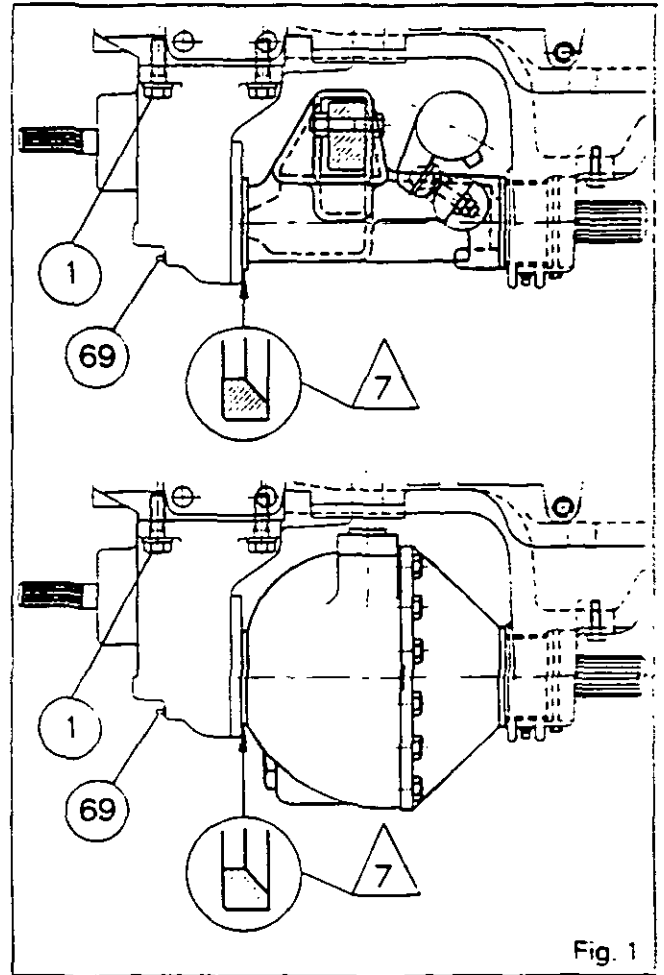
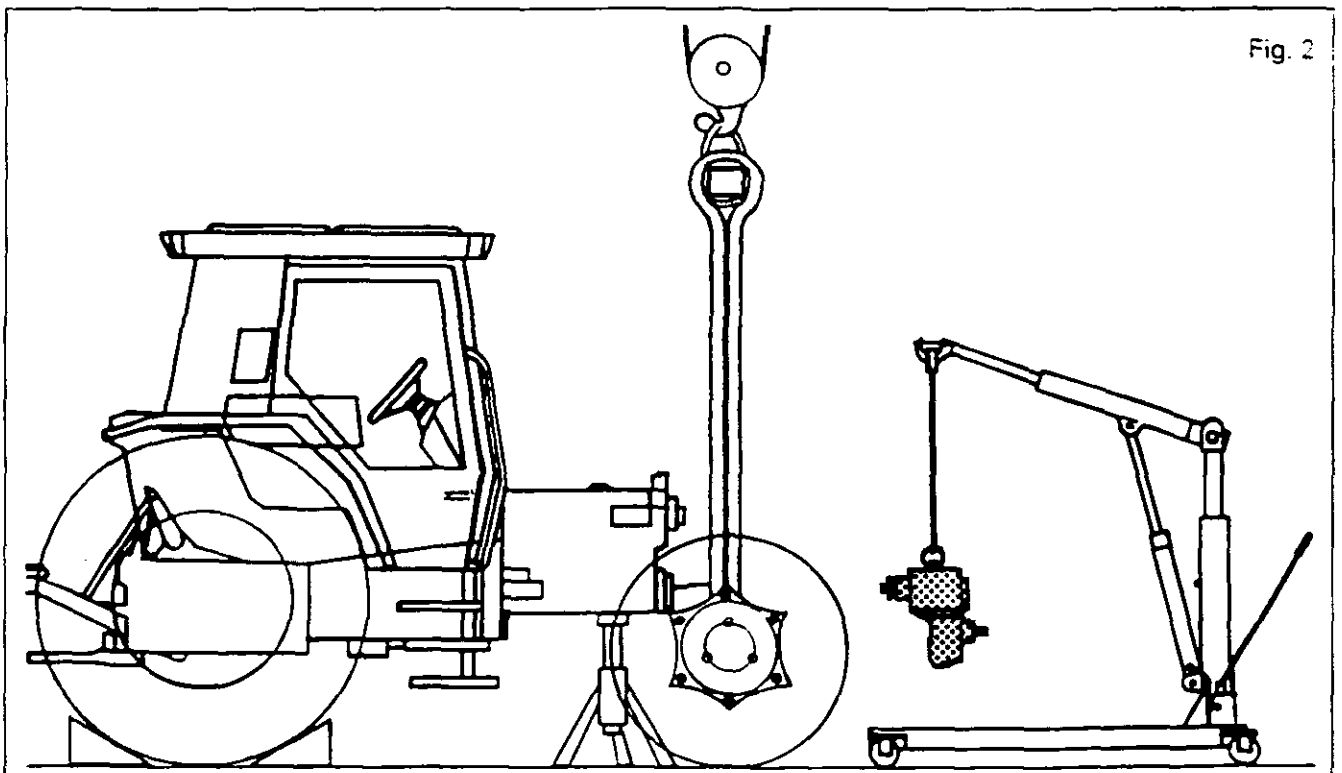

Fig. 1
Fig. 2
7. Lift the tractor with a jack positioned in line with the axle housing. Install a stand (see Fig. 2) under the engine's lower casing.
8. Install a sling and hold the front axle with straps (see Fig. 2).
9. Remove the bolts (1) and the grease nipple (69) (see Fig. 1).
10. Screw a locally manufactured hook in place of the filler plug (50). Using a travelling hoist, remove the PTO unit as shown in Fig. 2, disengaging the bush (87) from the coupling (76). Recover the chamfered washer (7) (see Fig. 1).